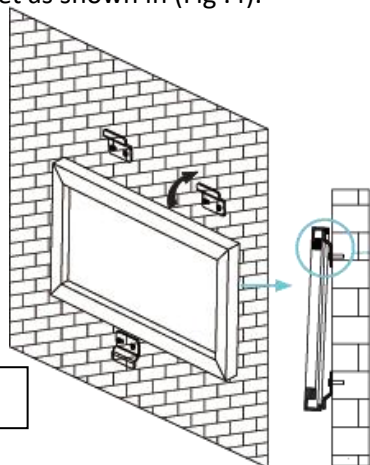

Fig. 3
4. Position the fixed frame screen onto the top wall brackets as shown in (Fig. 3) and push down at the center of the bottom frame to secure the installation.